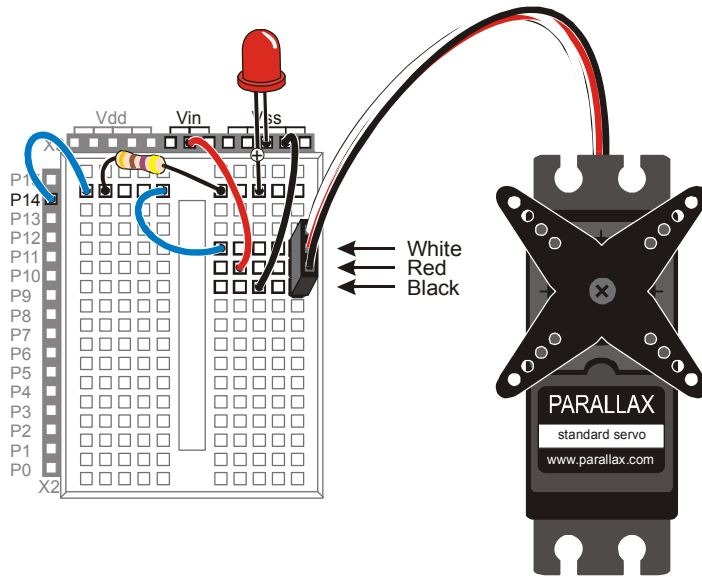

Figure 4
- √ Connect the servo to the servo header as shown in Figure 4.